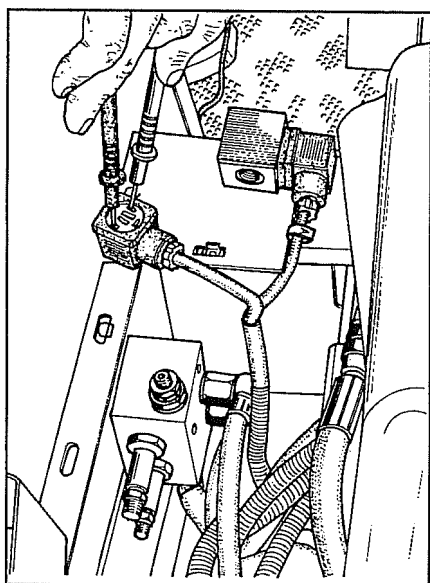

Fig. 3
- 4 With the ignition on, use a tester to check if the voltage on the dual traction cable plug (the one not marked "A" is 12V (see fig. 3). This reading should drop to 0V when both brake pedals are depressed at the same time or drop to a reading between 5.6 V and 2 V when the dual traction button is pressed (the reading between 5.6 V and 2 V is given by an induced current effect).